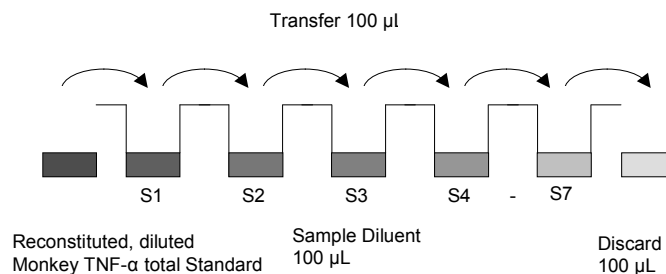

Fig. 1 Dilute standards - microwell plate
- Add 100 µL of Sample Diluent in duplicate to all standard wells. Pipette 100 µL of prepared standard, (concentration = 3600.0 U/mL) in duplicate into well A1 and A2. Mix the contents of wells A1 and A2 by repeated aspiration and ejection (concentration of standard 1, S1 = 1800.0 U/mL), and transfer 100 µL to wells B1 and B2, respectively (see Figure 1). Take care not to scratch the surface of the microwells. Continue this procedure 5 times, creating two serially diluted columns of monkey TNF-α total standard dilutions ranging from 1800.0 to 28.1 U/mL. Discard 100 µL from the last microwells (G1, G2). Final volume in all wells is 100 µL.